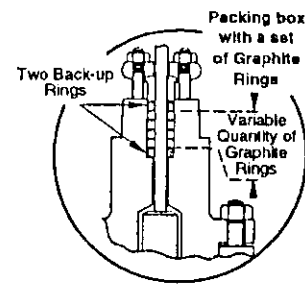

Figure 10
7.3 Packing Box (Figure 10)
E. Replace new packing set (14); first one smooth ring, then braided graphite rings, at last, one other smooth ring. (Figure 10).
F. Place packing follower (10) and packing flange (11).
G. Place and tighten packing stud nuts (13).